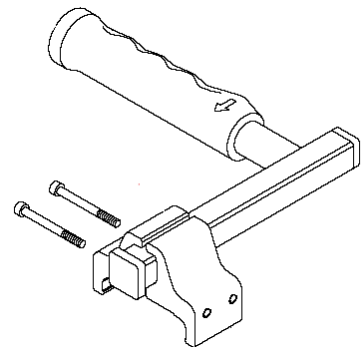

Figure 2
5. If required fit lifting handle (Figure 2) to top of the Air Motor Housing (F.). Adjust the handle position so the wrench can be held comfortably. Tighten the socket screws securely.